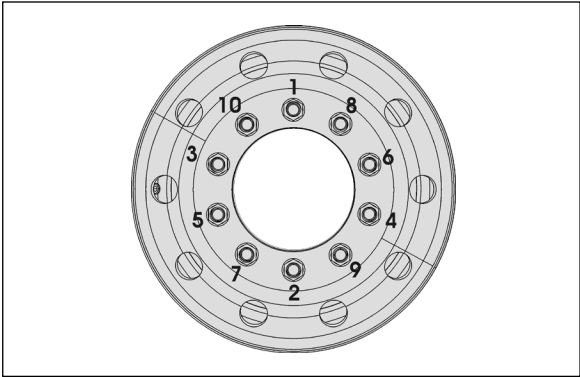

FIGURE 17: TIGHTENING SEQUENCE
8. Tighten stud nuts progressively as shown in FIGURE 17.